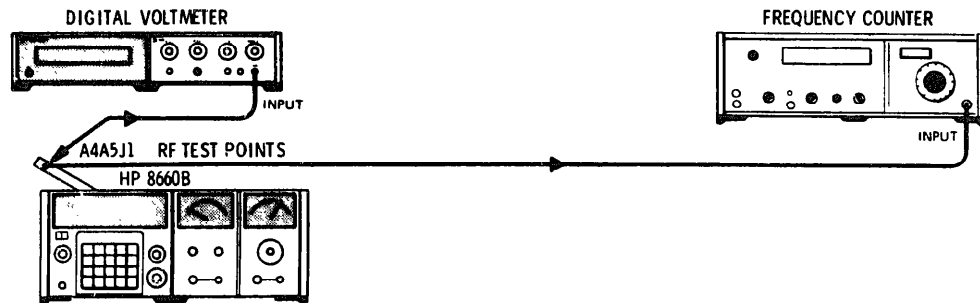

Figure 5-8. Voltage Controlled Oscillator Adjustments Test Setup
3. Voltage Controlled Oscillator Adjustment (see Figure 5-8)